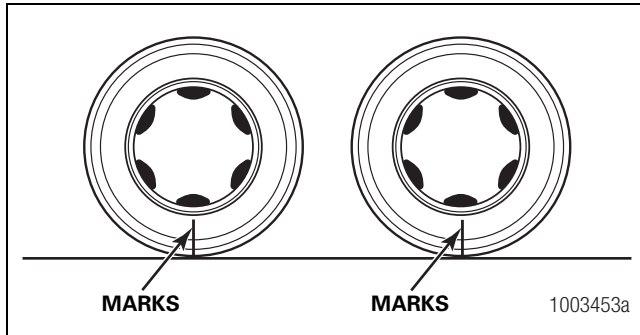

Figure 4.16
5. Mark the forward and rear tires at identical relative positions. Figure 4.16.